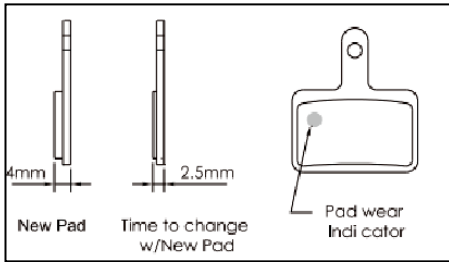

Fig. H-1 Identify worn brake pads
▲CAUTION: Pad should be replaced when total thickness is less than 2.5mm (friction material & metal plate) or the pad wear indicator appearance. (**Fig. H-1**)
- Check brake pad thickness - total thickness is more than recommendation values **(Fig. H-1)**.